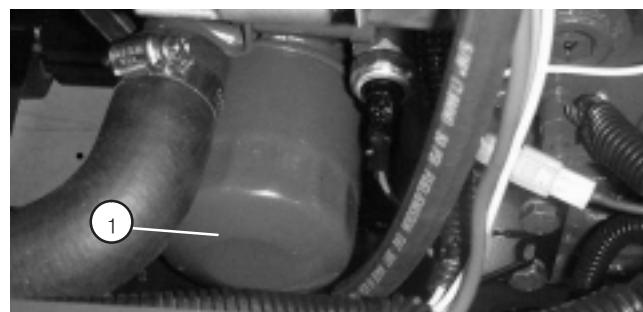

Figure 39
5. Remove and replace oil filter (Fig. 39).